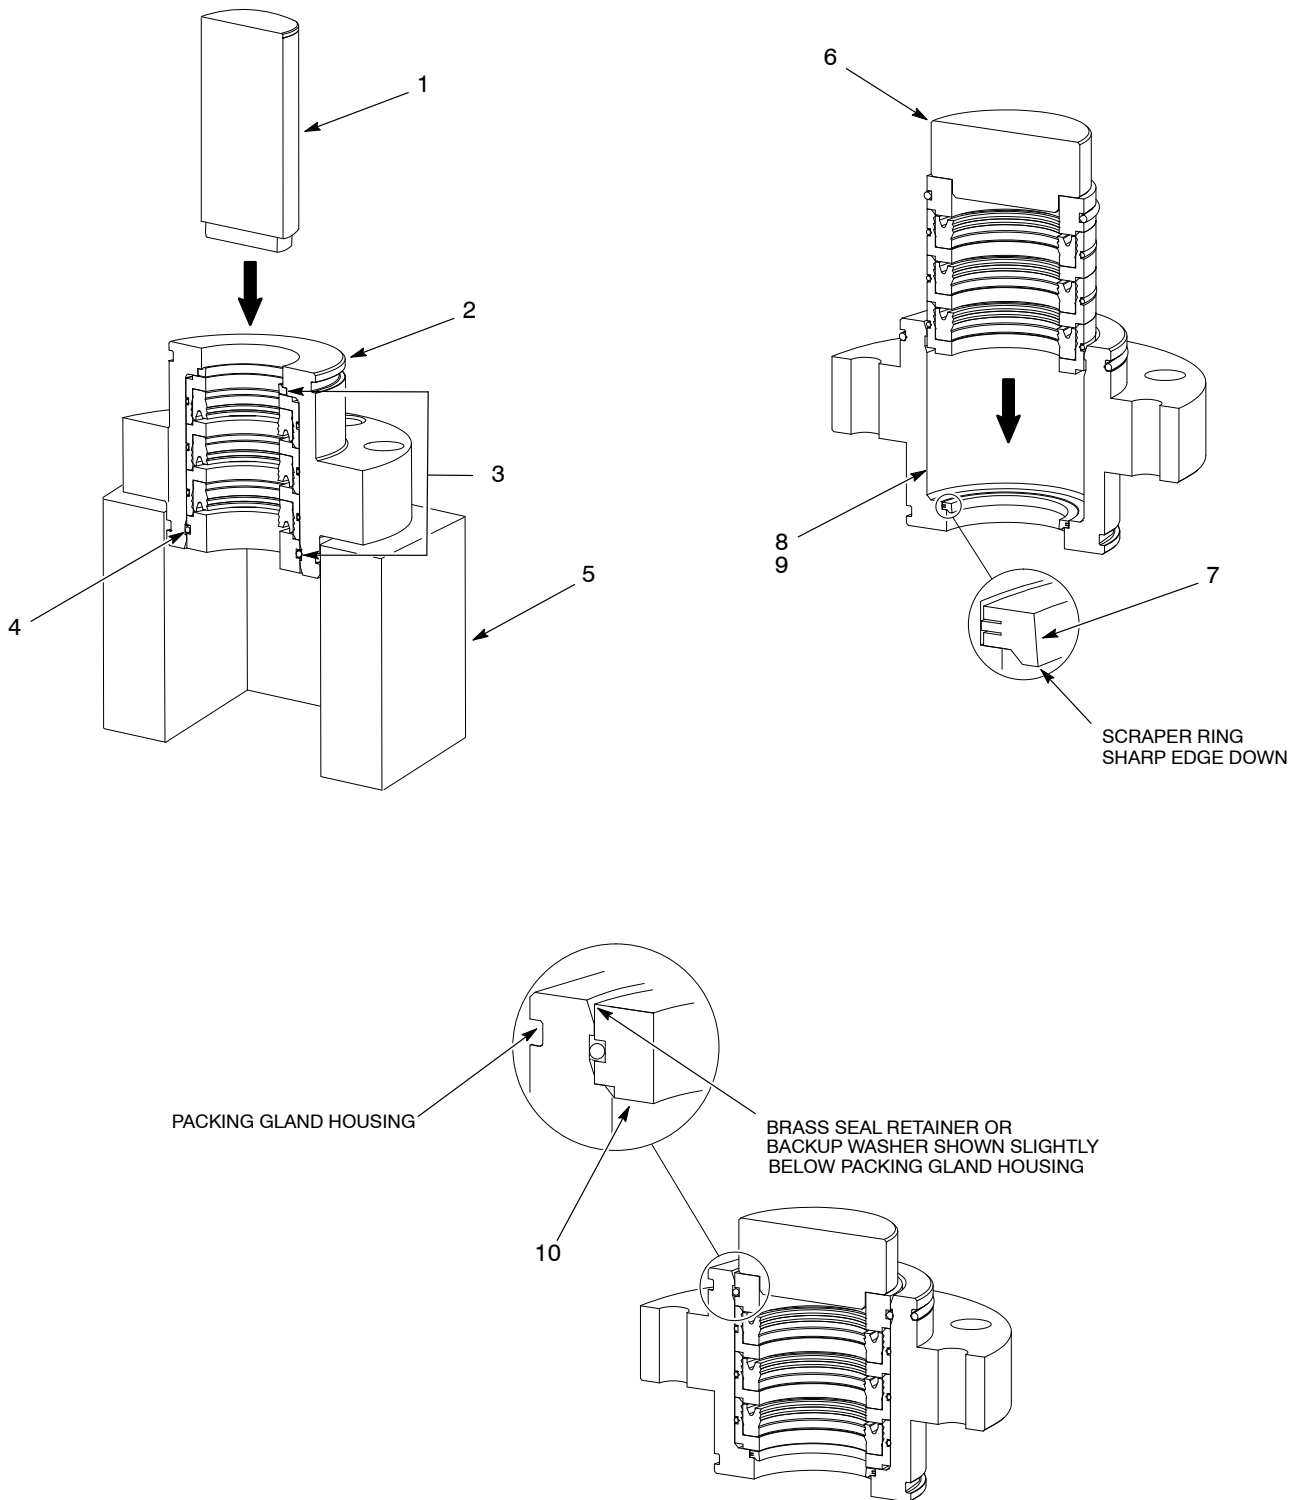

Figure 6 Typical Packing Gland Internal Parts Replacement
The standard hydraulic section packing gland is shown in Figure 6. This procedure is typical for the heated hydraulic section packing gland. The only differences are the parts. The heated hydraulic section packing gland uses a retaining ring and backup washer instead of a scraper ring and brass seal retainer.
1. See Figure 6. Place the packing gland housing (2) on a fixture (5) with the solvent cup end facing up.